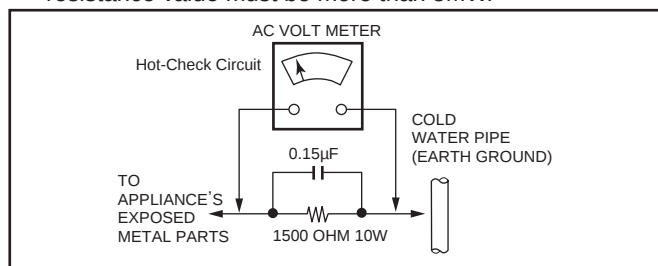

Figure1
LEAKAGE CURRENT HOT CHECK (See Figure 1)
2. Connect a 1.5KW, 10W resistor, in parallel with a 0.15m F capacitor, between each exposed metallic part on the set and a good earth ground such as a water pipe, as shown in Figure1.